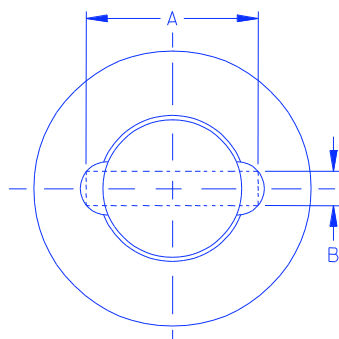

Figure 3: Retainer Removal Tool Dimensions
- **One Piece only** The next step is to remove the retainer from the valve body. Properly secure the valve before attempting to remove the retainer. See figure 3 for dimensions to be used in fabricating a retainer removal tool using a flat piece of steel.